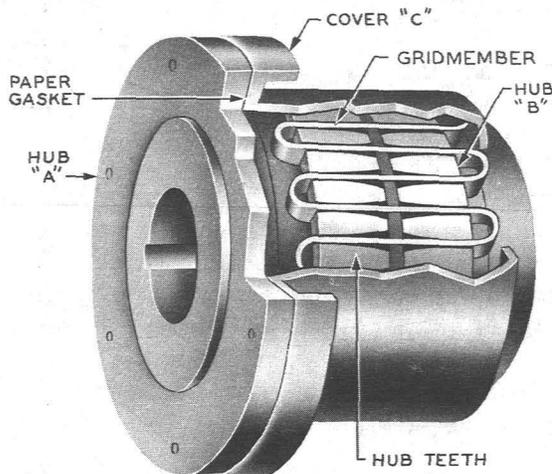

Fig. 22 – Type C Falk Coupling Assembly
(11) To lubricate a type C *Falk flexible coupling* (see Fig. 22), remove the cap screws which fasten the C cover to the driving A hub with the Allen wrench (provided with the flexible coupling) and slip the cover back clear of the driven B hub. Locate the open end of the gridmember, pry it loose with a screwdriver, and remove it completely. Clean out all old grease from the gridmember, from the teeth on the hubs, from between the hub end faces, and from the cover by scrubbing with a typewriter brush dipped in petroleum spirits. Inspect the paper gasket if one is provided. If it is damaged, replace it with a new one in accordance with Section 155-512-801.
(13) Fill all the slots between the teeth with ball-bearing grease; also, force as much grease as possible down into the gap between the coupling hub end faces. This is essential since, if only the slots are filled, a portion of the grease is squeezed out when the gridmember is inserted. Later, when centrifugal force caused by rotation of the coupling takes effect, most of the little amount of grease remaining in contact with the teeth after inserting the gridmember is thrown into the cover, leaving the teeth practically dry. If the gap is filled, however, not only will the space above the teeth be completely filled, but also the spaces around the teeth and gridmember because of the action of centrifugal force which throws the lubricant outward from the gap.
(14) Examine the gridmember and, if it is not badly worn, re-use it; if it is worn to a sharp edge, replace it in accordance with Section 155-512-801. Insert the gridmember in the slots by hand. Pack the spaces between and around the gridmember loops with as much lubricant as possible, filling the coupling to the limit. This is essential for proper functioning. Scrape off excess lubricant from the top of the gridmember convolutions. Draw the cover over the driven hub and pull up flush. Some excess lubricant will be pushed ahead of the cover into the space between the cover and the flange of the A hub. (See Fig. 22.) Back the cover off enough to allow the insertion of a small steel scale or similar implement and scrape off the excess lubricant so that, when the cover is finally adjusted, there will be no layer of grease to keep it from seating properly on the hub flange. Draw the cover up again and fasten in place with the cap screws. Wipe off excess lubricant.
(15) Examine the coupling after the first few hours of running to see whether the lubricant is leaking out. If there is no leakage or if it stops soon, lubrication of the coupling should be satisfactory. If it comes out between the cover and the flange of the driving hub, tighten the cap screws; if this is not effective, replace the gasket in accordance with Section 155-512-801. Some of the surplus grease may work out along the shaft past the inner edge of the cover during the first few times the machine is run and after it is stopped. If this continues until an amount believed to be more than the surplus applied has escaped, pull back the cover and examine the grease as to quantity and consistency, that is, whether oil has separated out; repack if necessary.